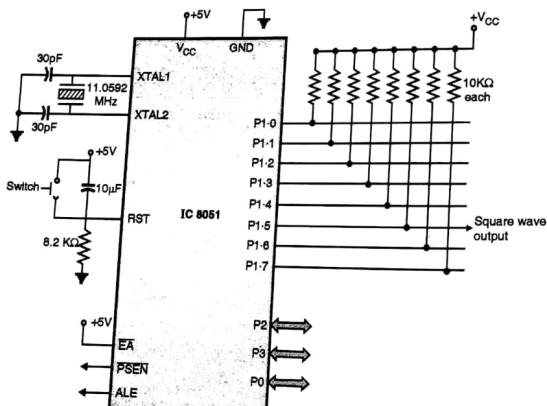

Fig. P. 6.4.1 : Interface diagram
**Part (a)** **Design :** Let us generate this square wave on the P1.5 pin. The circuit interface for this system is shown in the Fig. P. 6.4.1.